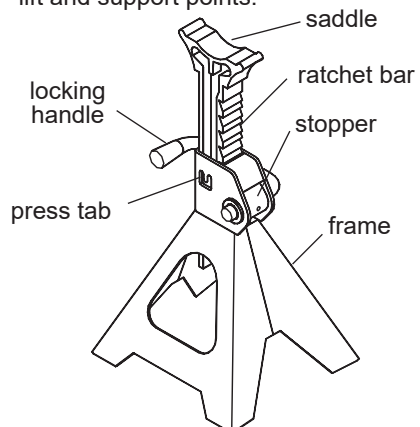

Figure 3 - Typical Jack Stand Nomenclature
2. Verify that the product and the application are compatible, if in doubt call **Pro-Lift Customer Support @ (888) 332-6419**.
6. Ratchet/collar lock is accomplished by simply moving the press tab (Fig. 3) inward using a suitable hammer and punch. This will effectively prevent inadvertent loss of the ratchet bar.